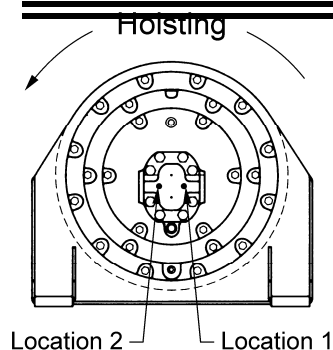

Figure 5
6. After all the causes listed above have been investigated and it is found that the winch will stall at maximum pressure without developing the maximum pull on the bare drum, the trouble may be in the winch.	Install a pressure gauge in Location 1 (refer to Figure 5), and apply a stall pull on the winch. If the pressure is up to a maximum and the bare drum line pull is less than the specified line pull, the trouble will be in the winch. Disassemble winch according to disassembly instructions and inspect. Check that all gears turn freely for "winching in" rotation. If gears are found to be satisfactory, inspect the hydraulic motor, according to the service instructions for the hydraulic motor.
2. There is excessive back pressure acting on the reverse port of the winch motor. This back pressure is usually caused by the use of a control valve and hoses that are too small. It can also be caused by a restriction in the return line from the control valve to the reservoir.	Install a pressure gauge in Location 2 (refer to Figure 5). Run the pump at its maximum RPM and with the control valve in neutral position, read the pressure gauge. If the pressure is greater than 95 psi (6.5 atm), it is too high. Consult sections 4.2. Control Valve and 4.3. Hoses for the recommended control valve and hose size, and install the correct size if necessary. If the hose and control valve are as recommended, check for restriction in the return line from the control valve to the reservoir.
2. Winch is being overloaded.	Install a pressure gauge in Location 1 (refer to Figure 5) and apply a stall pull on the winch. If the pressure is higher than the maximum specified, reduce the pressure.